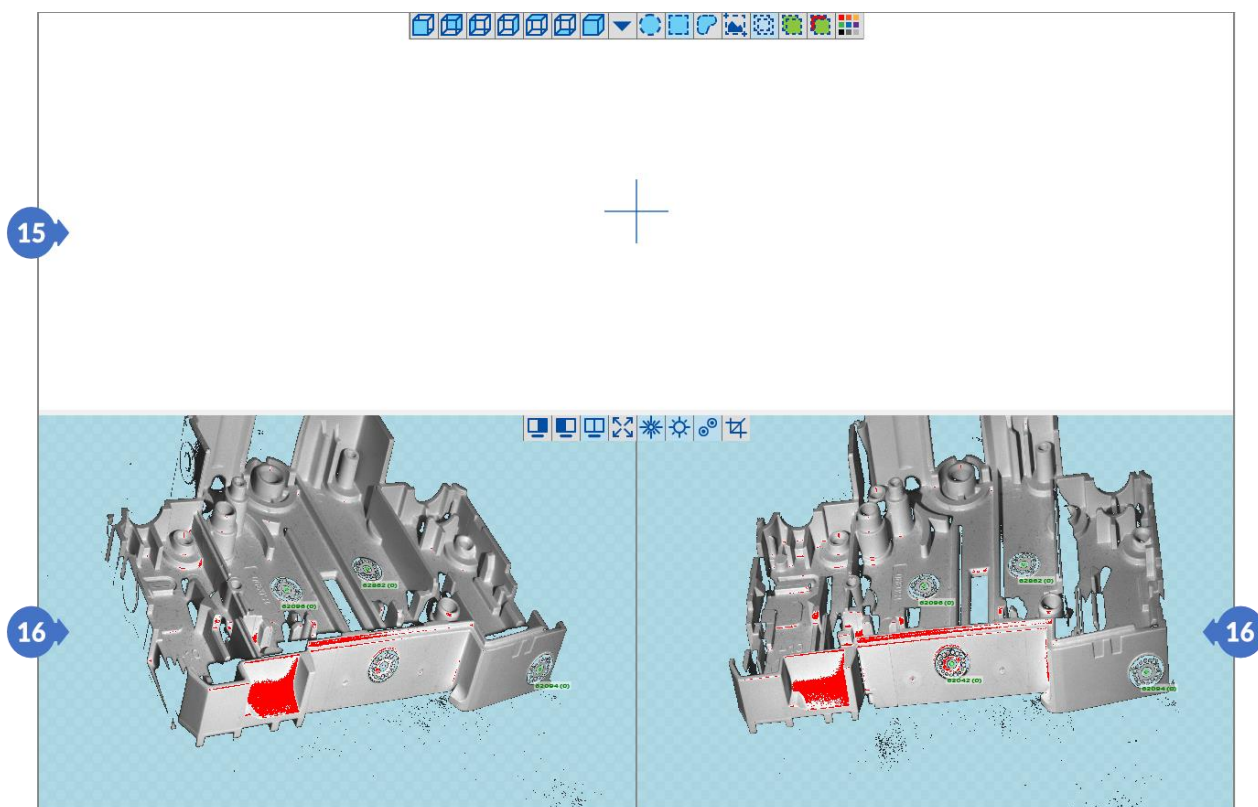

Figure 275. The appearance of the middle window when scanning with markers
An additional difference between the normal scanning panel and the scanning with markers is the appearance of the middle window in the software. In the scan mode, only the camera preview is visible, while in the scan mode with markers, both the *Viewer* (15) with generated point clouds (scans) and the camera preview (16) are visible (Figure 275).